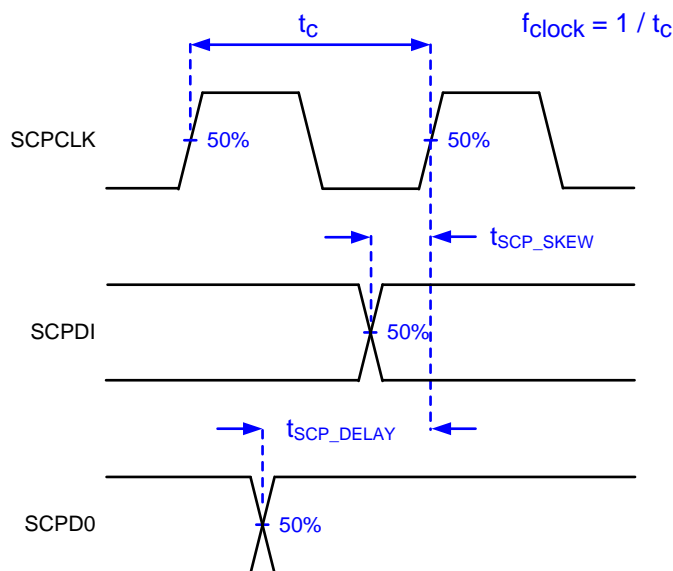

Figure 3. Serial Communications Bus Timing Parameters
- (5) PWRDNZ input pin resets the SCP and disables the LVDS receivers. PWRDNZ input pin overrides SCPENZ input pin and tri-states the SCPDO output pin.
- (6) The SCP clock is a gated clock. Duty cycle shall be 50% ± 10%. SCP parameter is related to the frequency of DCLK.
- (7) Refer to Figure 3.
- (8) SCP internal oscillator is specified to operate all SCP registers. For all SCP operations, DCLK is required.
SERIAL CONTROL BUS TIMING PARAMETERS (See Figure 3 and Figure 4)